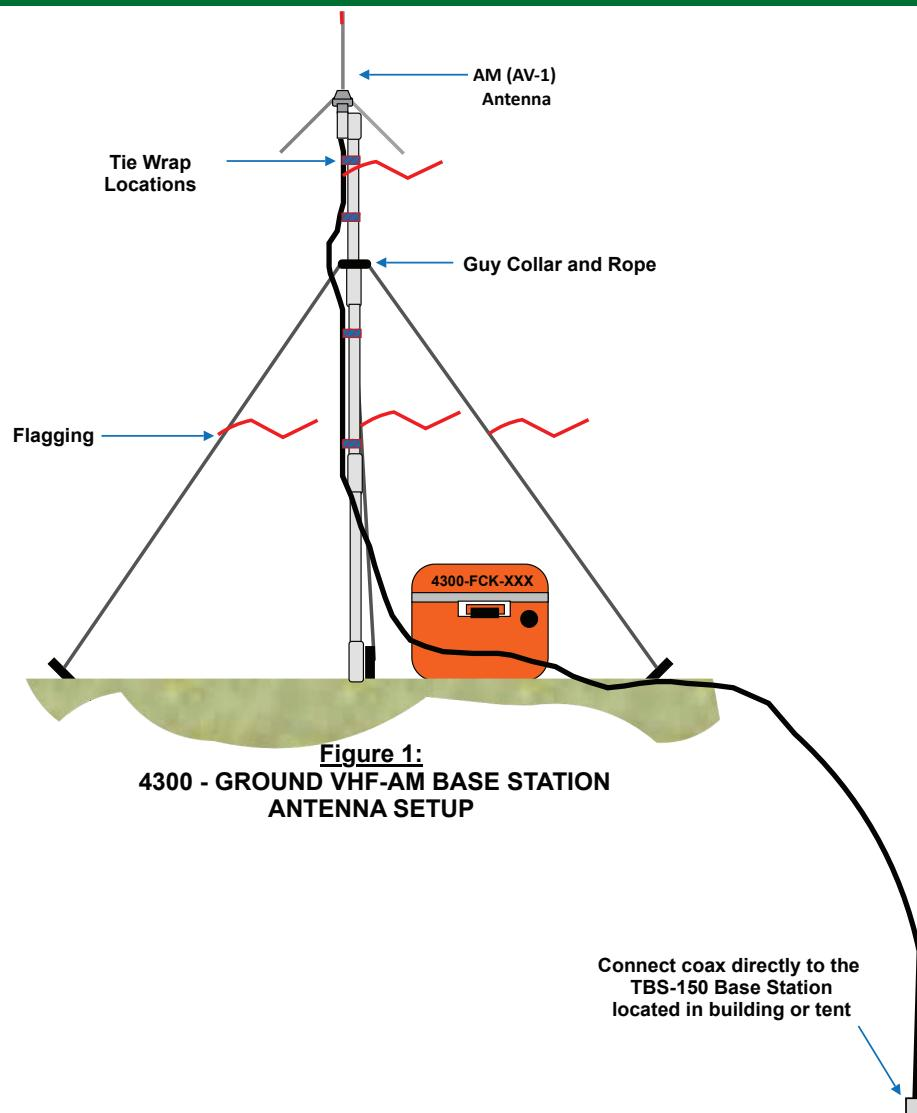

Figure 2:
- Connect power to the appropriate radio by using a 12 Volt SLA battery to the appropriate power connector on the front of the chassis. (See Figure 2 and 3)